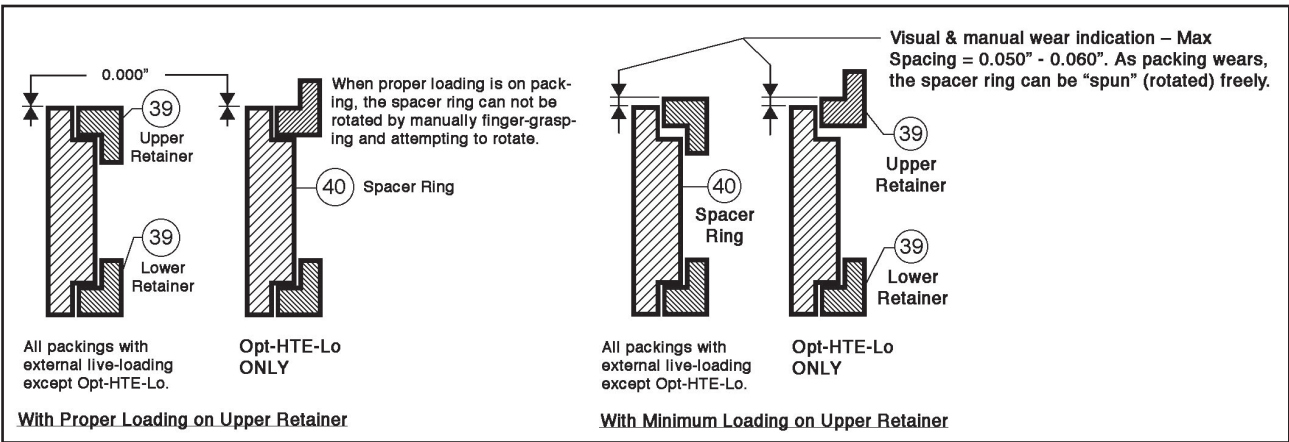

Figure 11: Dimensionals for Proper Packing Load
- a. Ability to "freely spin" the spacer rings (40).
- b. Measure the spacing between the upper retainers (39) spacer rings (40) (see Fig. 11).